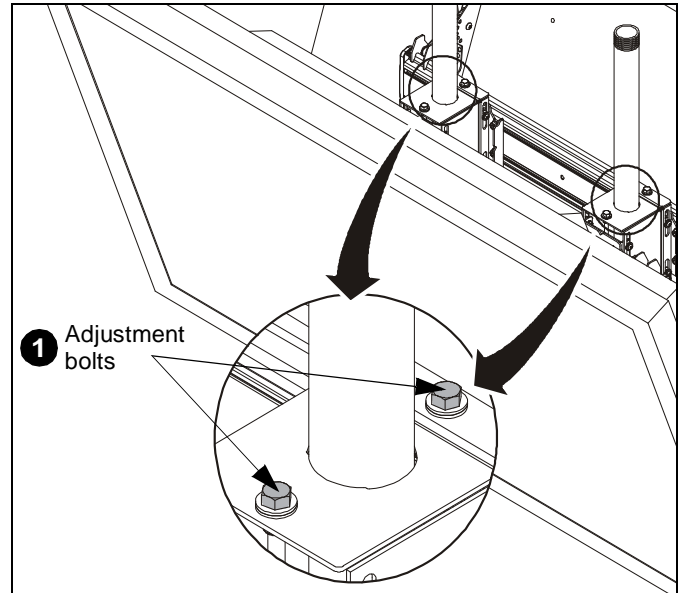

Figure 17
1. Turn the height adjustment bolt(s) in the direction necessary for the desired height. (See Figure 17)